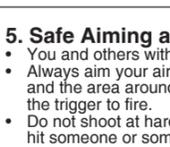

Fig. 4
- Turn the puncture screw counter-clockwise (Fig. 4).
- **Slowly** turn the puncture screw counter-clockwise (down) until it stops; allowing any remaining CO2 gas to escape (See Fig. 4).